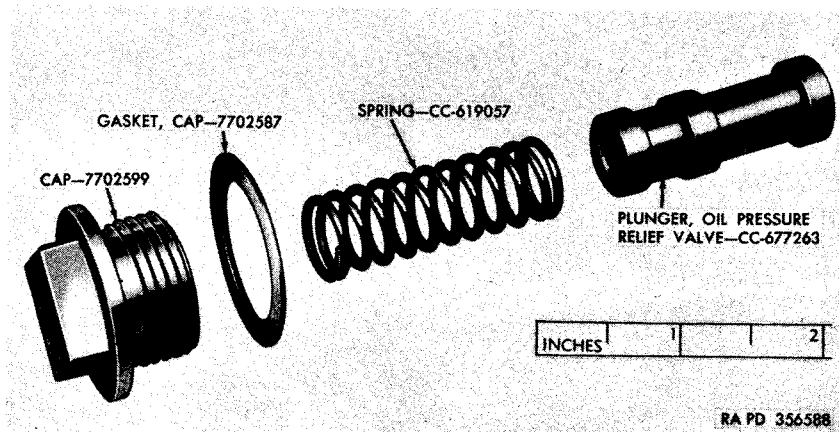

Figure 95. Oil pressure relief valve—exploded view.
4. *Install Oil Pressure Relief Valve* (fig. 95). Before installing the oil pressure relief valve, apply compressed air to the oil pressure relief valve opening to remove any dirt or foreign matter. The valve must be assembled with the small shoulder or solid end toward the seat and the large shoulder or drilled end toward the spring. Wash the oil pressure relief valve plunger, spring, and cap in engine oil, and install in that order with a new cap gasket under the cap.